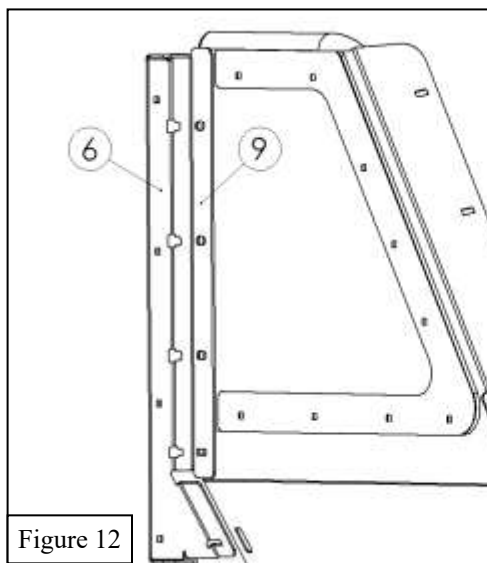

Figure 12
18. Align the Front Window Frame and Link Plate as shown in **Figure 12**.